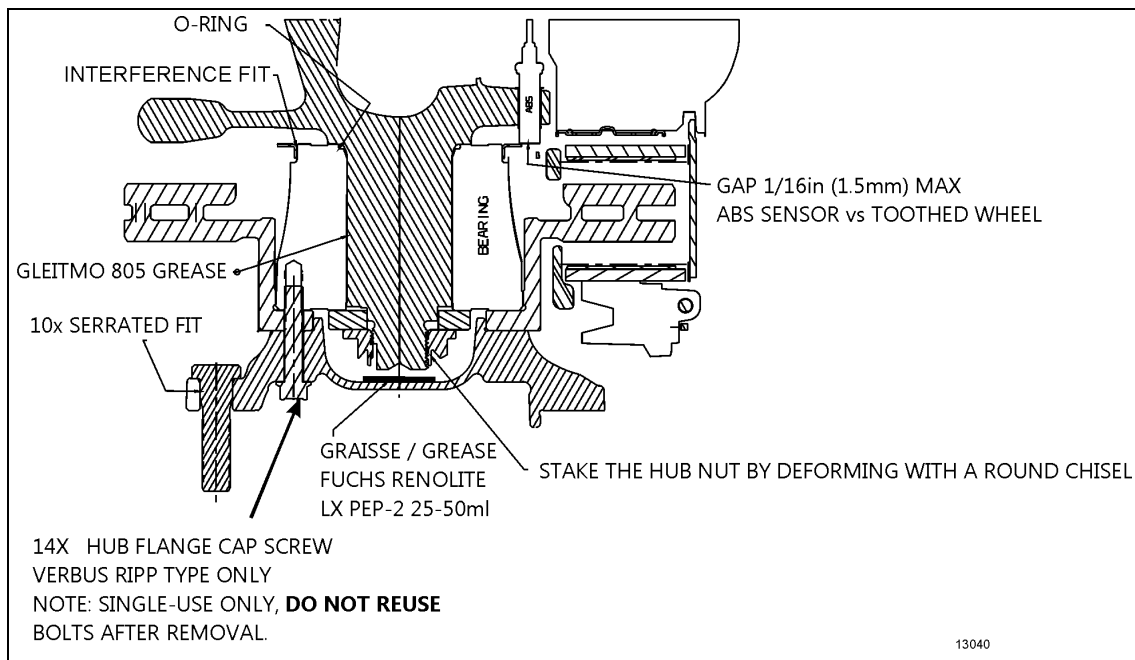

FIGURE 7: TAG AXLE UNITIZED BEARING & WHEEL HUB
5. Make sure the O-ring is present, see Figure 7.